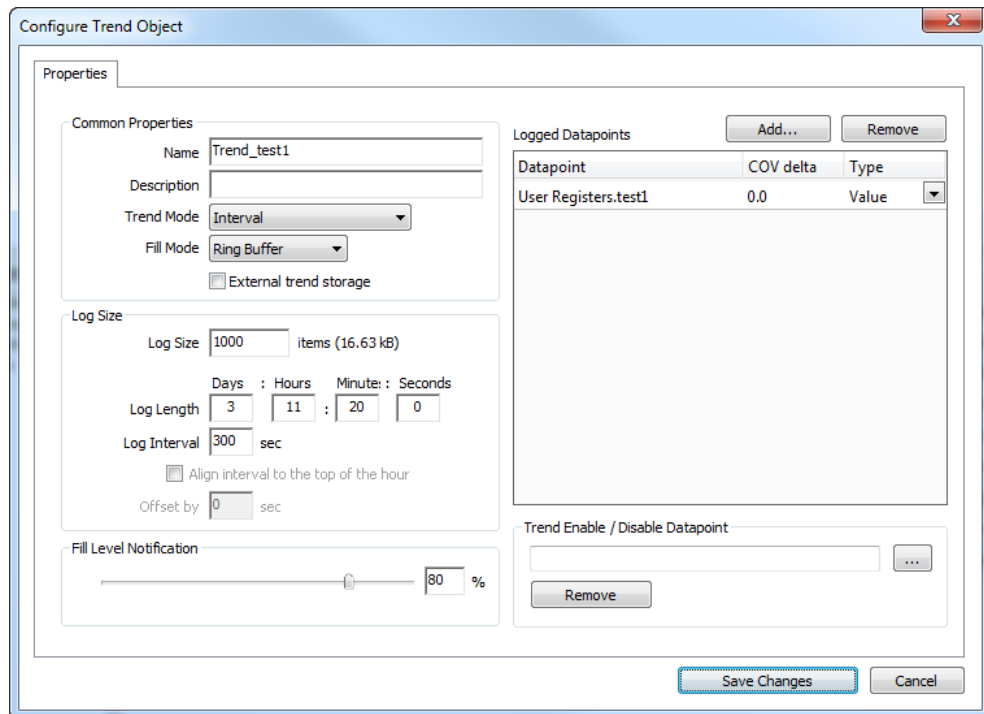

Figure 34: Basic Trend Object Configuration.
3. In the **Create New Trend Object** dialog (shown in Figure 34), enter a name and optionally a description for the trend log object.